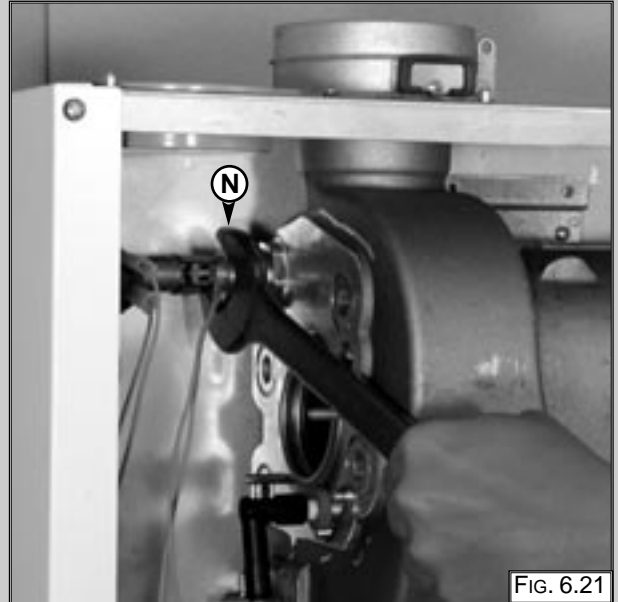

FIG. 6.21
1. Remove the two nuts "N" (FIG. 6.21+6.22);